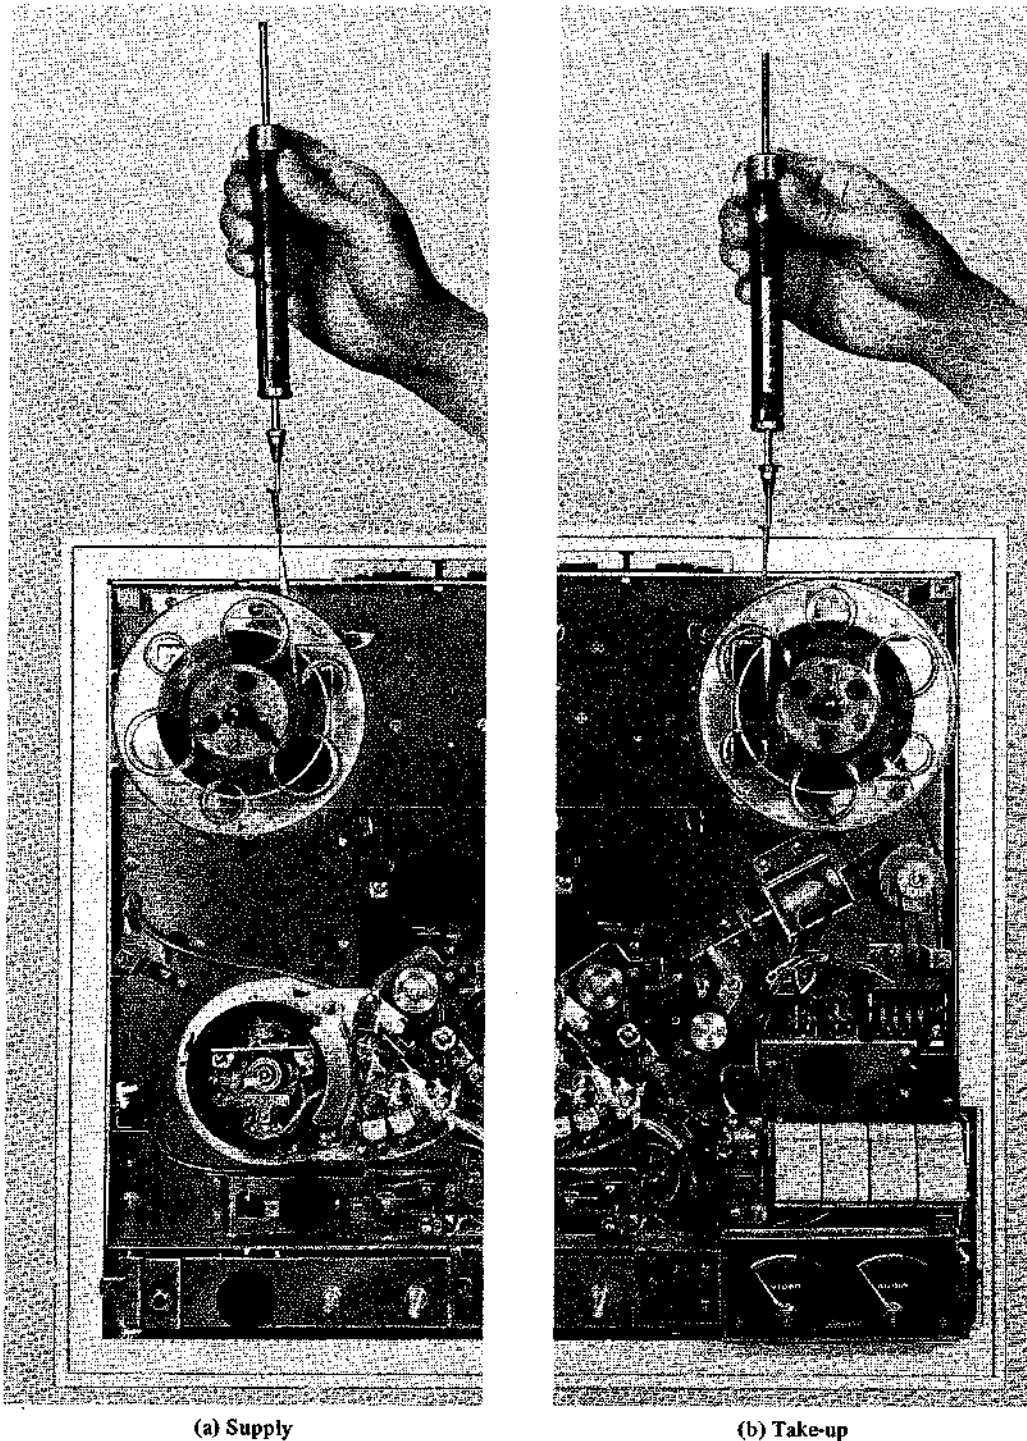

Fig. 3 Brake Tension Measurement
- (a) As shown in Fig. 3 a, b, connect a 0 to 500 gram Spring Gauge to a 60 mm diameter tape and measure Brake Tension (Stop Mode). Standard tension is 170 gr (± 30 gr).